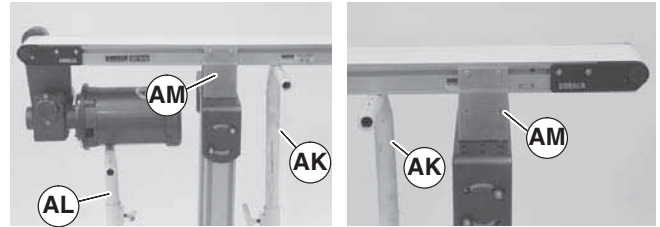
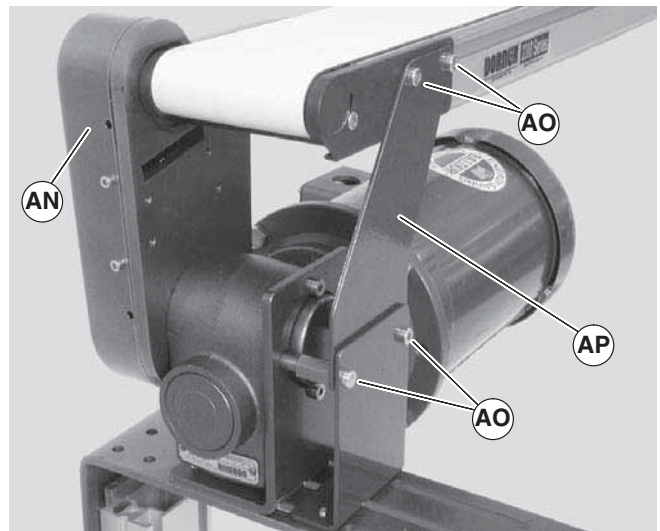

Figure 19
Figure 20
1. Place temporary support stands (Figure 19, item AK) at both ends of the conveyor. Place an additional support stand under the drive motor (AL), if equipped. See WARNING.
2. Remove mounting brackets (Figure 19, item AM) from one side of conveyor. (Reverse steps 3 & 4 of “Mounting Brackets” section beginning on page 8.) If equipped with heavy load drive package, remove brackets from side opposite drive cover (Figure 20, item AN).
4. If equipped, remove return rollers, guiding and accessories from side opposite drive cover (Figure 20, item AN).
5. If equipped with heavy load drive package, remove drive support bracket (Figure 20, item AP): Remove bracket screws (AO) then remove bracket (AP).
1. Ensure temporary support stands (Figure 19, item AK) are placed at both ends of the conveyor. Place an additional support stand under the drive motor (AL), if equipped. See WARNING.
5. If equipped with a heavy load drive package, re-install drive support bracket (Figure 20, item AP).